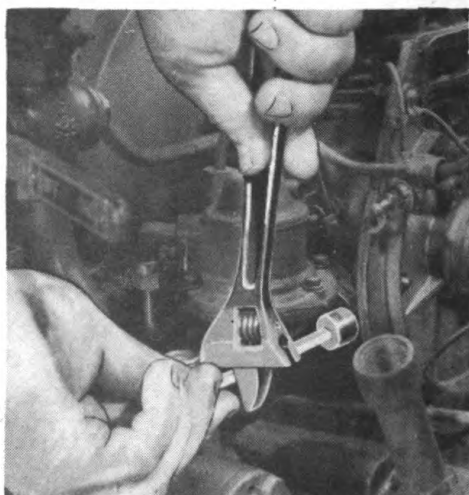

Fig 63. Loosening the two hex nuts which hold gasoline pump to cylinder block.
- f. Remove gasoline pump from cylinder block by loosening the two hex mounting nuts with 1/2-inch socket wrench as shown in figure 63. If hex nuts turn hard, apply pressure to handle of socket wrench with adjustable wrench.